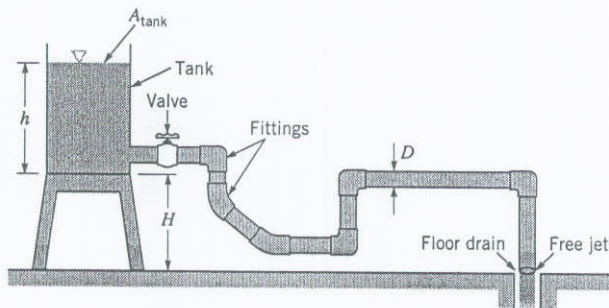

FIGURE P8.128
**Objective:** The rate of flow of water from a tank is a function of the pipe system used to drain the tank. The purpose of this experiment is to use a pipe system as shown in Fig. P8.128 to investigate the importance of major and minor head losses in a typical pipe flow situation.